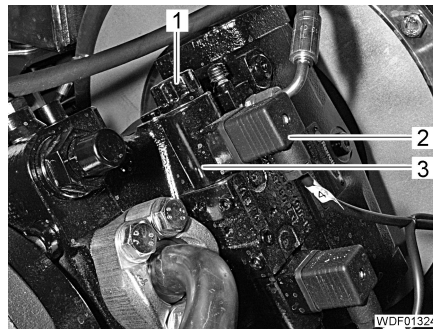

Fig. 569 Variable displacement pump solenoid valve
- Unscrew the screw (Fig. 569,2) on the connector.
- Unscrew the nut (Fig. 569,1).
- Pull off the coil (Fig. 569,3).
- Attach the new coil (Fig. 569,3) onto the core of the solenoid valve.
- Screw the nut (Fig. 569,1) with the O-ring onto the core of the solenoid valve and tighten it hand-tight.
- Plug the plug (Fig. 569,2) into the connections on the coil.